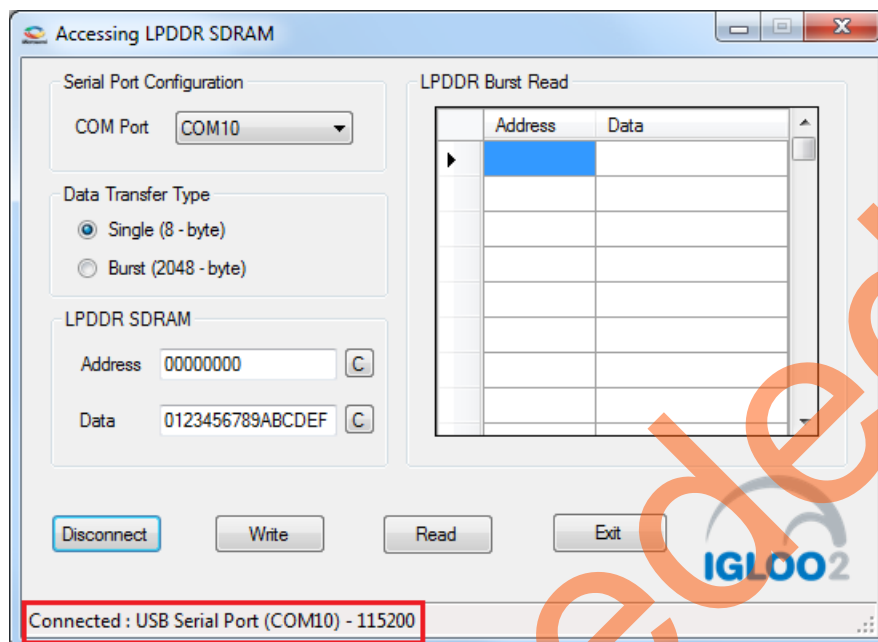

Figure 20 • IGL2\_MDDR\_Demo – Connection Status
- Click **Connect**. The connection status along with the COM Port and Baud rate is shown in the left bottom corner of the screen. Figure 20 shows the connection status of the utility.